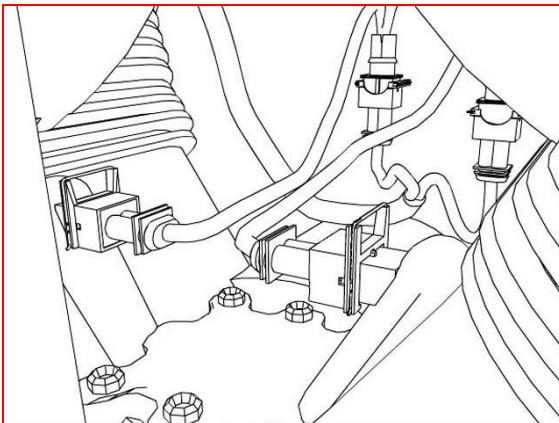

Figure 14
13. Feed the TFI injector connectors under the throttle body and connect them to their respective injectors. Install the horn. (see figure 14)